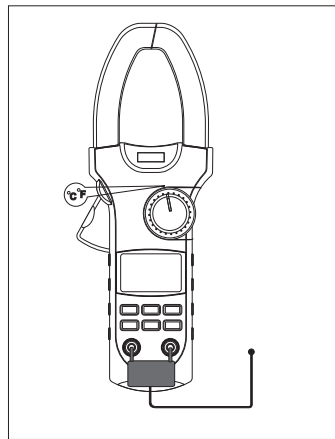

Figure 11
I. UT208 only: Temperature Measurement (see figure 11)